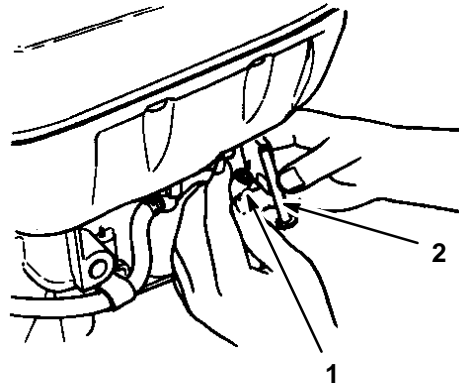

Figure 18
- Remove the fuel tube on the fuel tank by loosening the tube clamp (Fig. 18).